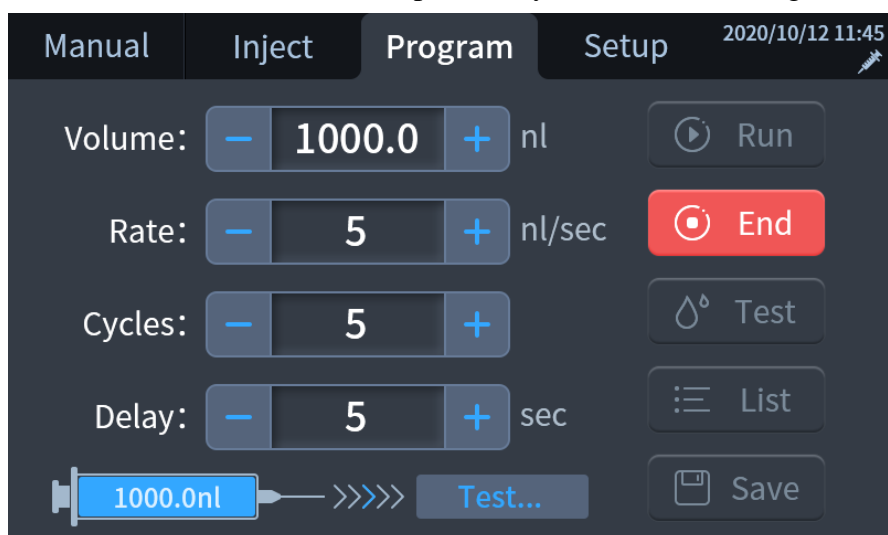

Figure 6-12
- 2) Click  **Test** to run the first step in the cycle, as shown in Figure 6-12.